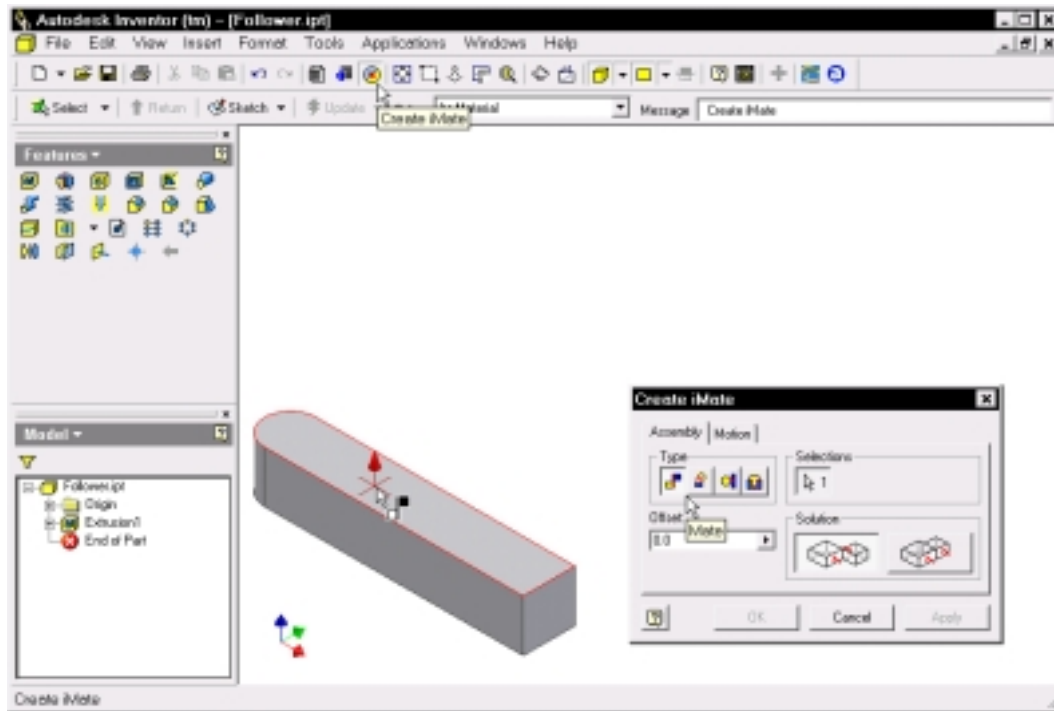

Figure 3-21
4. Select the face indicated in Figure 3-21 and select the Apply button.